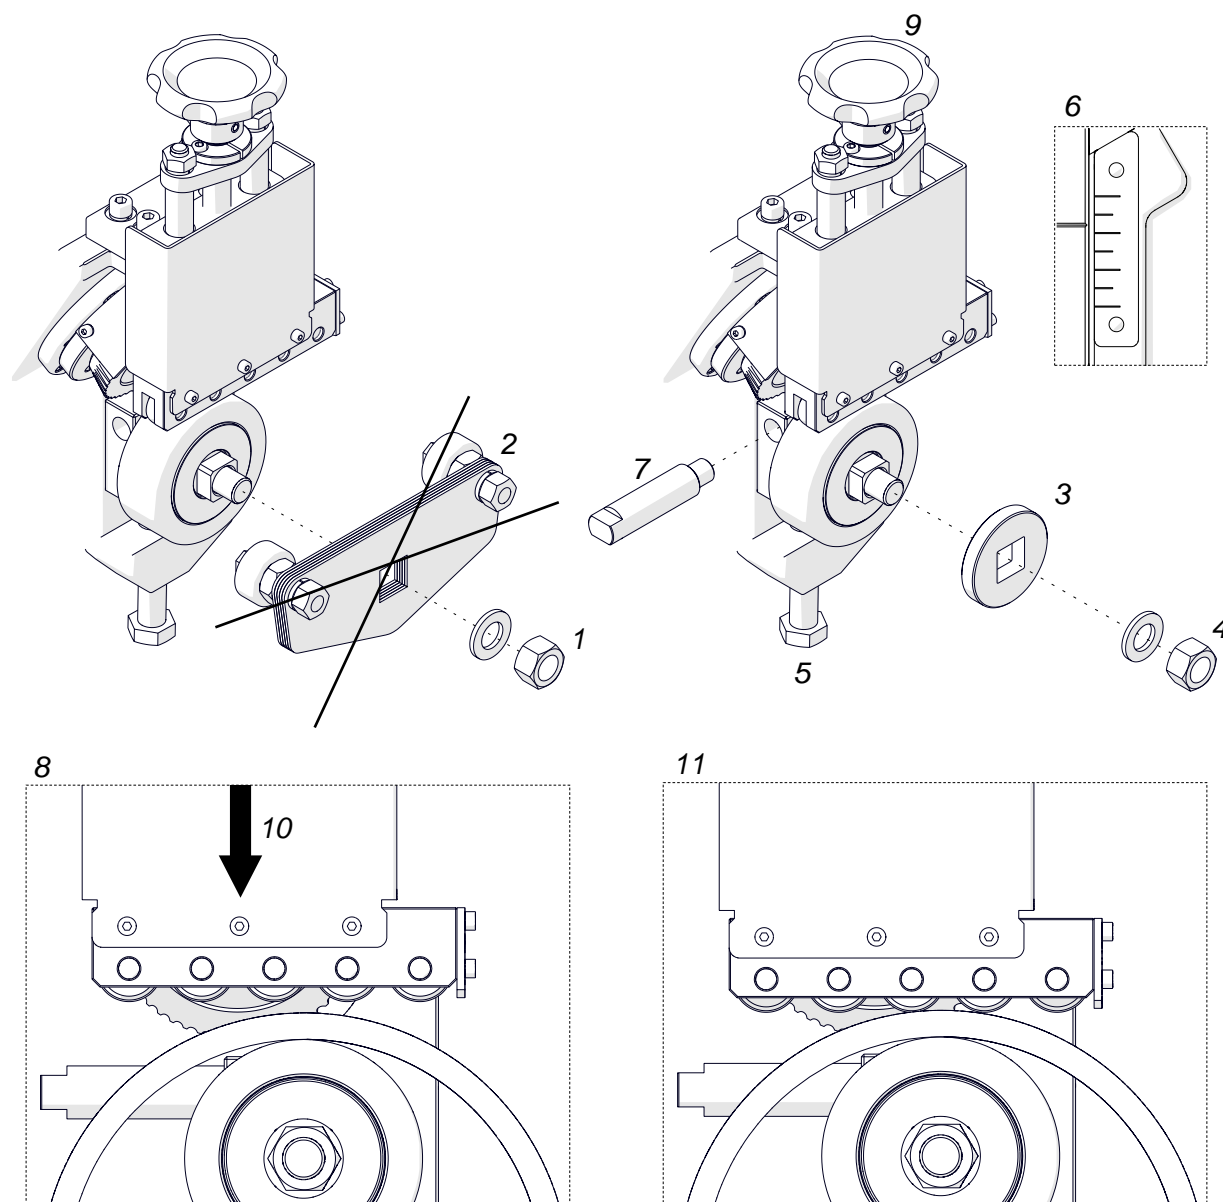

Fig. 3. Installing the washer and adjusting the bevel height and the clamp
Use the 24 mm flat wrench to unscrew the nut (1, Fig. 3) and remove the guide (2). In place of the guide, install the washer (3) and slightly tighten the nut (4). Rotate the bolt (5) so that the scale is set to the value of the pipe wall thickness (6), and then tighten the nut (4) as much as possible. Next, screw in the shaft (7) and place the pipe onto the guide roller (8). Use the knob (9) so that the clamp rollers make contact with the pipe (10, 11). The rollers must not press the pipe firmly.